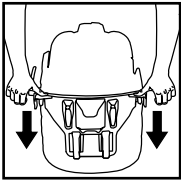

FIGURE 2
3. Press tabs of tool holder into the slots on mounting lugs on rear of tank cover. **FIGURE 2.**